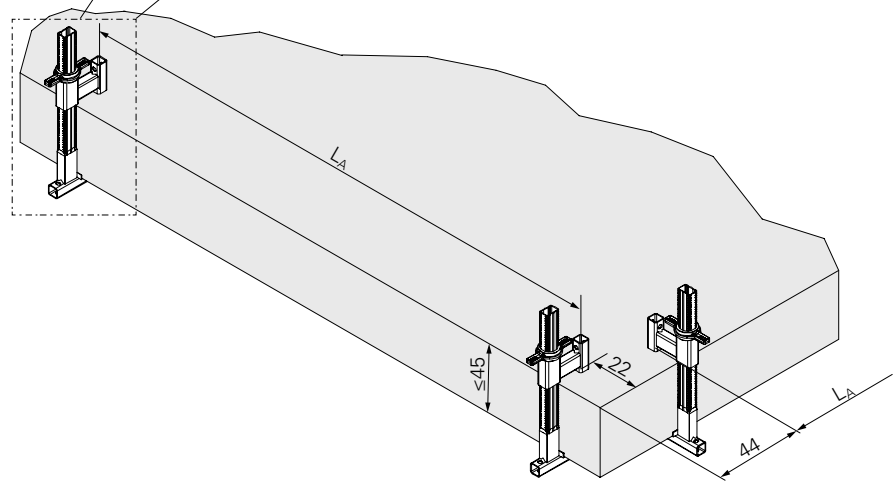

Fig. A2.05
- Determine the centre distance  $L_A$  as a function of the length  $L$  of the side mesh barrier and the permissible influence width  $L_{EB}$  (see Tab. A2.04) and Section "Selection" on page 17. (Fig. A2.05)